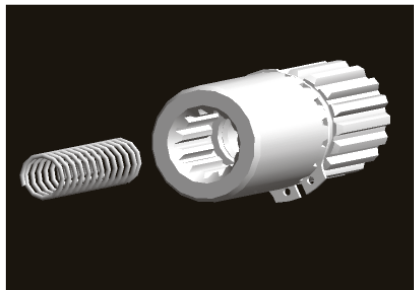

Fig. 9
- d. Install spring into pump shaft as shown in **Fig 9.**